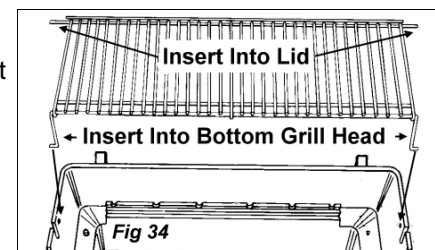

Fig. 34
2. The WNK swingaway Warming Rack connects to the grill lid and the grill head bottom. First, insert the right Top and Bottom Rods into their respective mounting holes on right side of the grill lid and grill head bottom. Then slide the RACK to your left, positioning the left Top and Bottom Rods into their respective mounting holes simultaneously. The Lower Right Rod End can then be "popped" into place by flexing it inward. (Fig. 34)